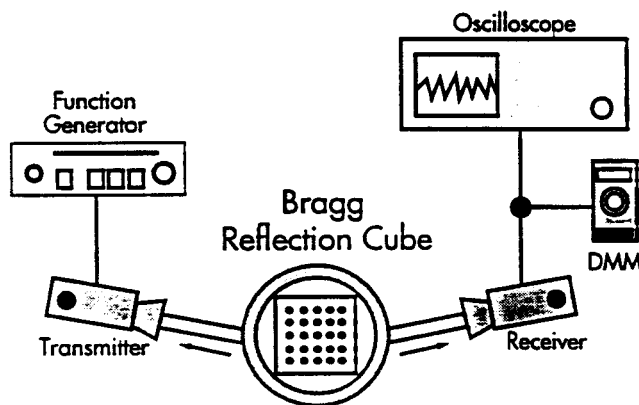

Fig 3: Transmission of waves from Bragg Reflection Cube
4. Complete the setup as shown in figure 3. Adjust the function generator to produce a 4kHz square wave with minimal gain. The oscilloscope should be switched to AC with the time per division at about $50\mu s$. The voltage per division should be set at 50mV and adjusted as necessary. If also using a digital multimeter, set it to 2VAC. Verify that the multimeter is capable of measuring an AC signal at 4kHz.